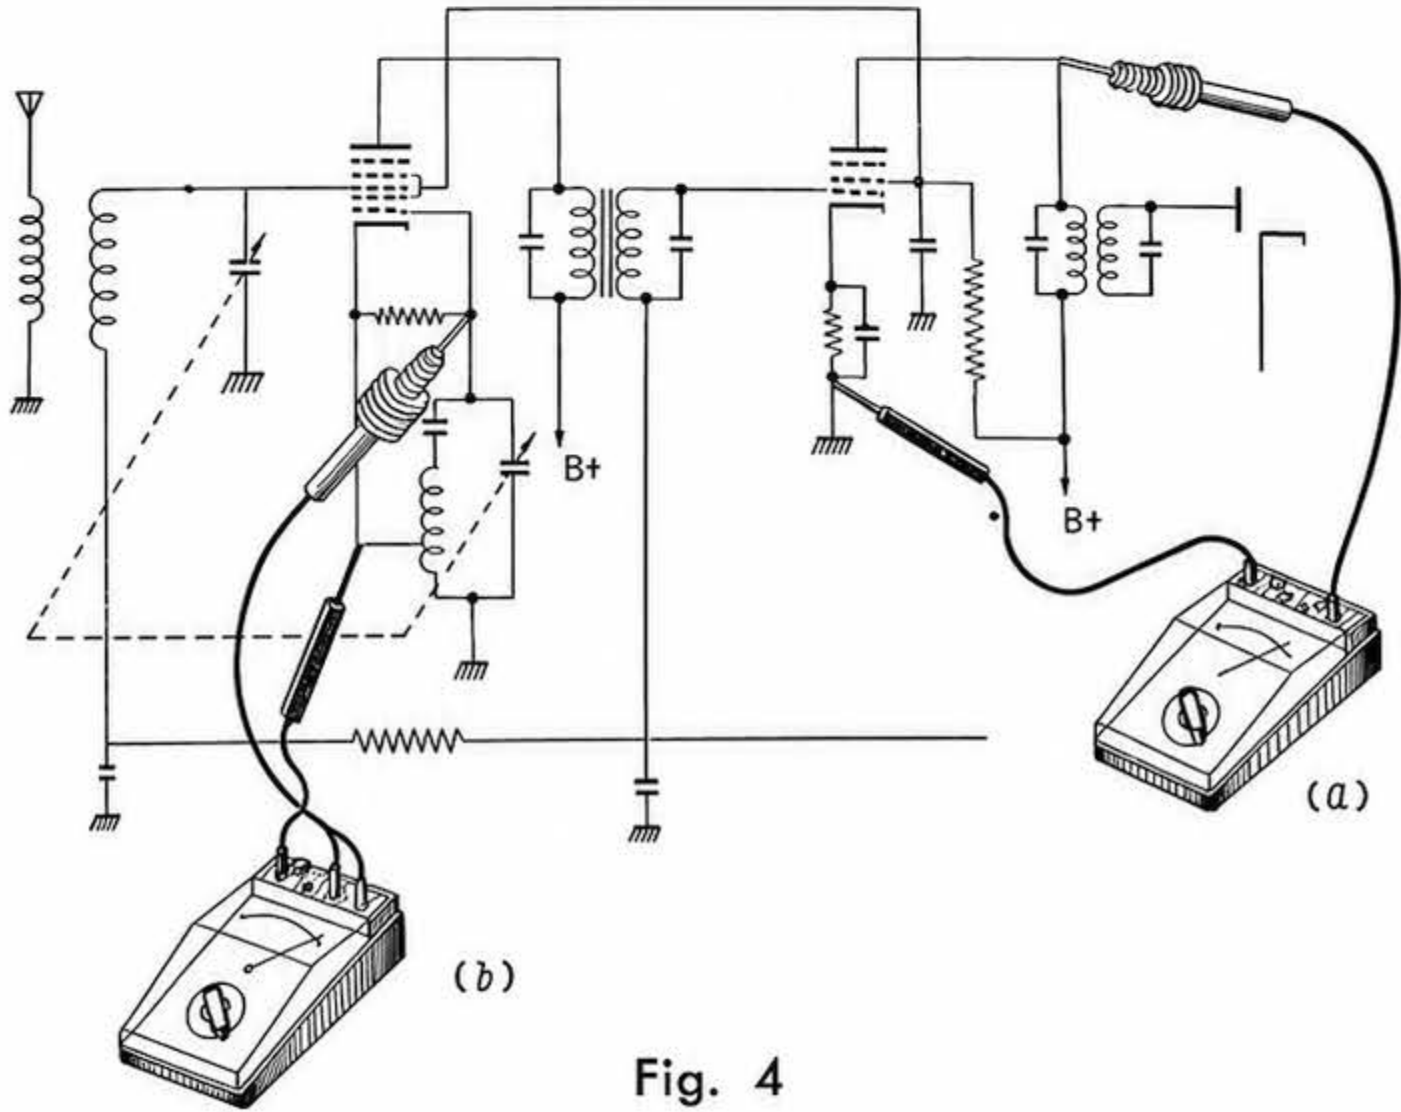

Fig. 4
10) For measuring grid current See Fig. 4